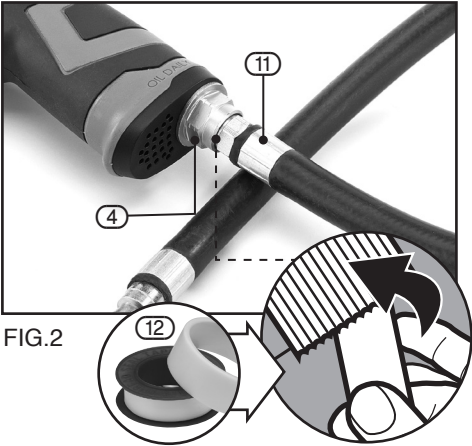

FIG.2
9.1 CONNECTION TO THE AIR SUPPLY – FIG. 2